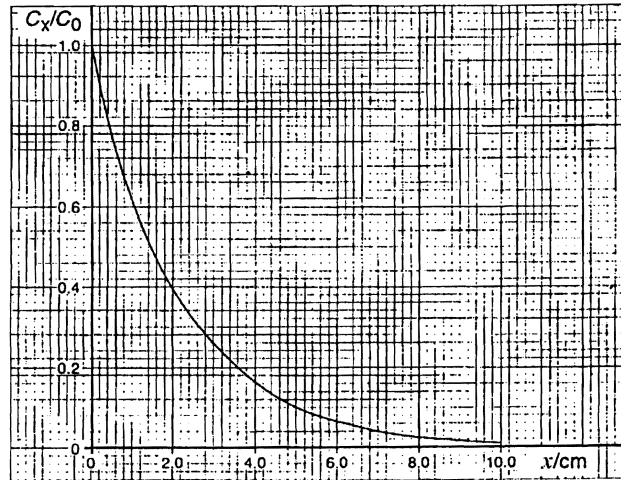
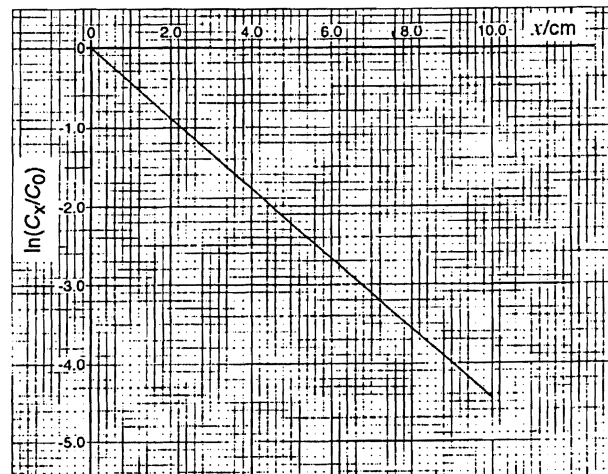

Fig. 43
Fig. 44
The count-rate C_x of γ -ray photons is measured for various thicknesses x of the absorber, together with the count-rate C_0 for no absorber. Fig. 43 shows the variation with thickness x of the ratio C_x/C_0 for lead.
- (iii) What evidence is provided in Fig. 43 for the fact that, theoretically, complete shielding is not possible? [4]
- (b) Fig. 43 indicates that there may be an exponential decrease of the ratio C_x/C_0 with thickness x . In order to test this suggestion, a graph of $\ln(C_x/C_0)$ against x is plotted. This is shown in Fig. 44.